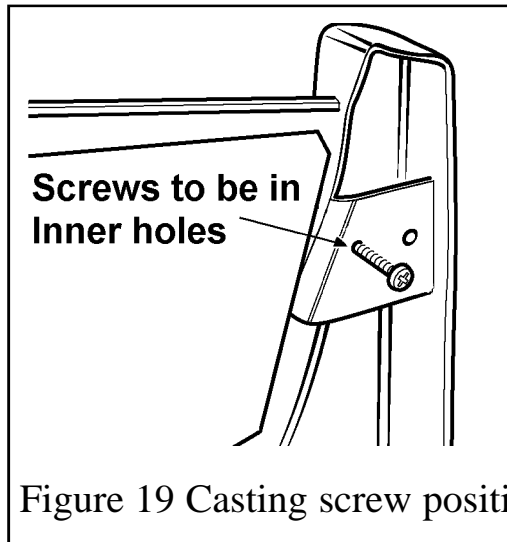

Figure 19 Casting screw position.
- Check that the two screws in the back of the fire front casting are in the inner threaded holes. If they are in the outer holes, relocate them (See figure 19)